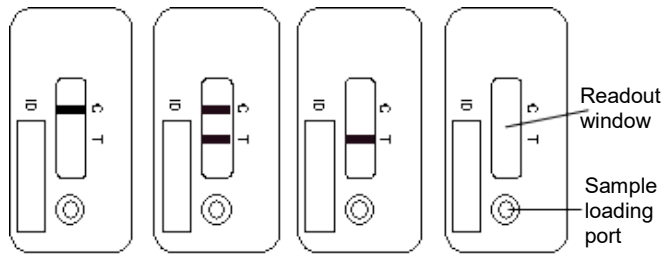

Figure 1A Figure 1B Figure 1C Figure 1D
- For a valid test result, the control line (C) must be visible in all cases (see figure 1A and 1B). It is used as a functional test control only and cannot be used for the interpretation of the test line (T). If the test line (T) is not detectable after 15 minutes of incubation time (figure 1A), the concentration of CRP present in the sample is below the detection limit. If a test line (T) is detectable after 15 minutes of incubation time (figure 1B), the CRP concentration present in the sample is calculated by the Quantum Blue® Reader.